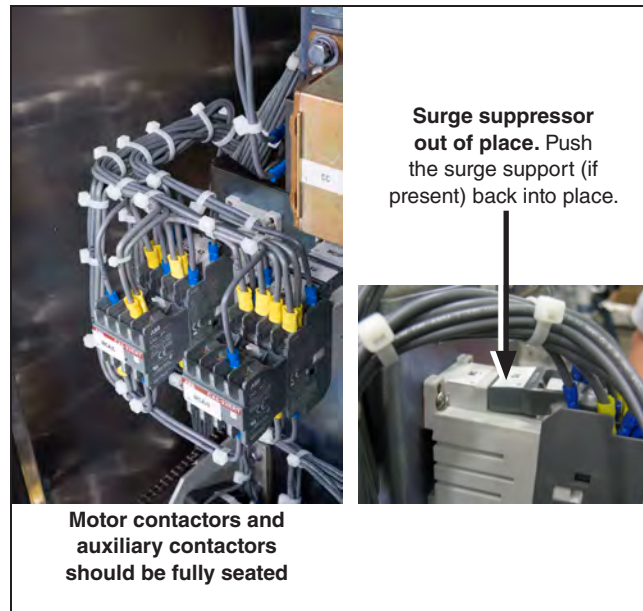

Figure 27. Check the open and close motor contactors, auxiliary contact blocks, and surge suppressors behind the operator side panel.
- Check the open and close motor contactors and surge suppressor to ensure all electrical connections are secure and that all contactors and surge suppressors are fully-seated in their mounts. See Figure 27.